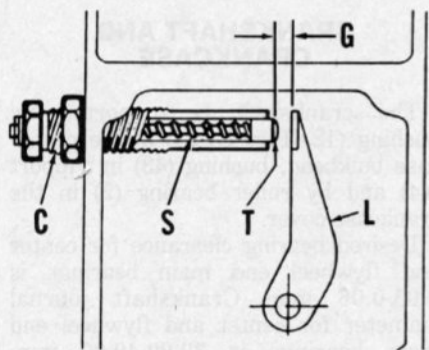

Fig. L1-12—View of torque control screw. Refer to text for adjustment.
Torque control screw (C—Fig. L1-2 and L1-12) allows additional fuel usage under high torque load. The tip (T—Fig. L1-12) is backed by spring (S). Tip (T) must travel 0.2-0.3 mm when 400-430 grams is forced against tip. To adjust torque control screw, run engine at high idle with no load and turn screw so there is 2.1-2.3 mm gap (G) between tip (T) and lever (L). Tighten locknut.